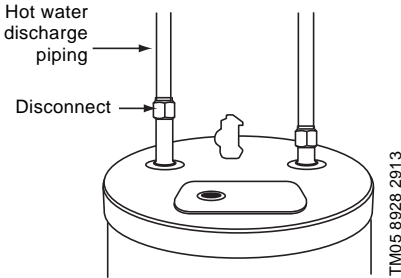

Fig. 2 Water heater hot water pipe disconnect
3. Disconnect the hot water piping from the water heater hot water discharge; see fig. 2.